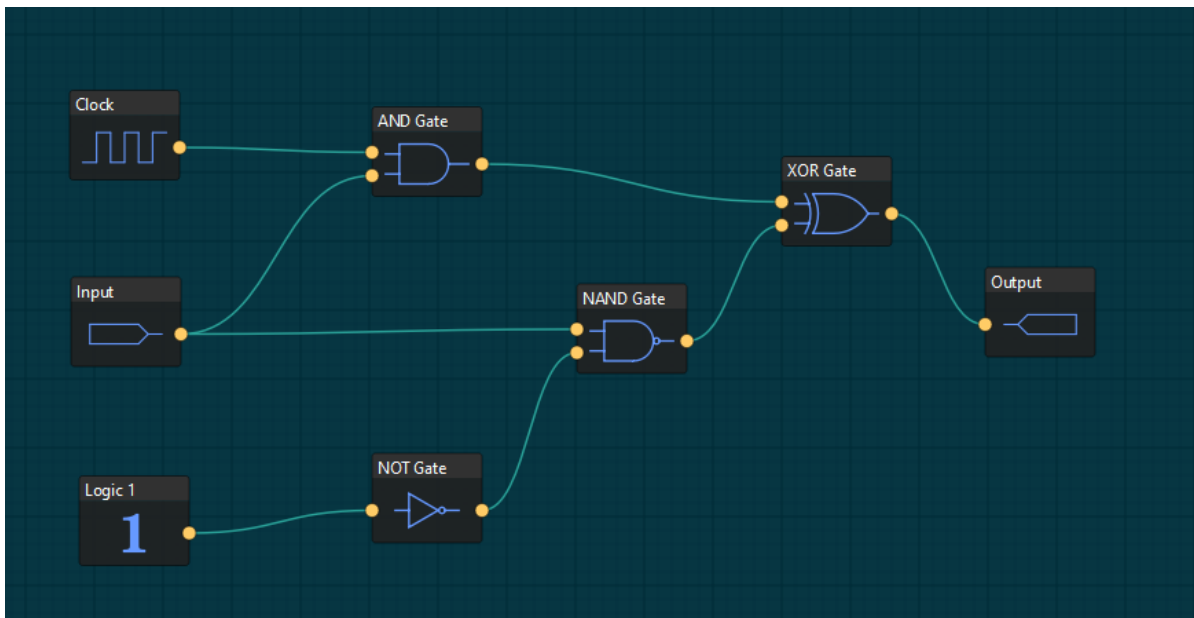

Figure 3: Steps to Launch Custom Module
5. After the user has created the desired design, click on the Generate Verilog button on the right to automatically generate the Verilog code for the design created in Macro Cell Editor (See Figure 3).